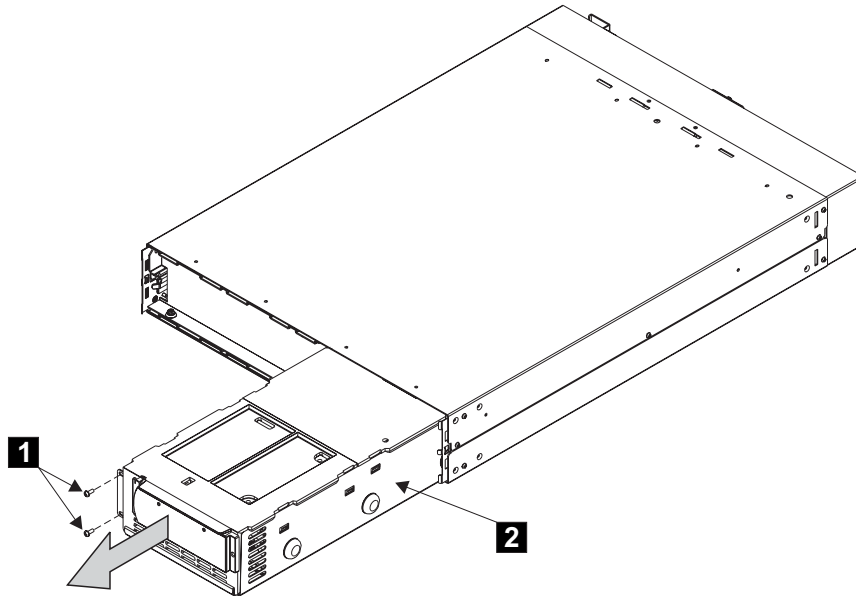

Figure 76. Removing the uninterruptible power supply 5125 electronics assembly
- a. Remove the two screws **1** (see Figure 76).